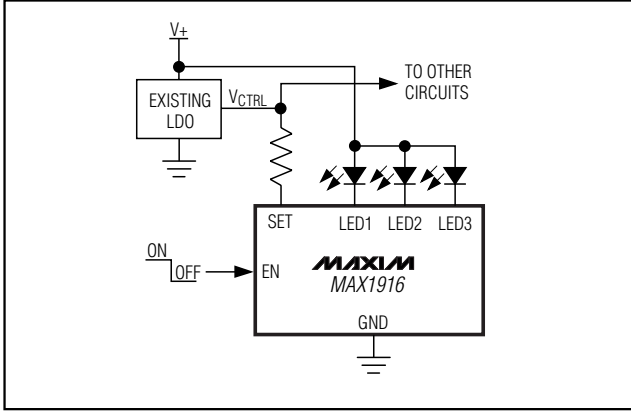

Figure 2. Very Low-Cost, High-Efficiency Solution
- 1) Very Low-Cost, High-Efficiency Solution (Figure 2). A battery (single Li+ or three NiMH cells) powers the LEDs directly. This is the least expensive and most efficient architecture. Due to the high forward voltage of white LEDs (3.3V), the LED brightness may dim slightly at the end of battery life. The MAX1916's current-regulating architecture and low dropout greatly minimize this effect compared to using simple ballast resistors. The enable function of the MAX1916 turns on and off the LEDs. An existing low-dropout regulator is used as V_{CTRL} .